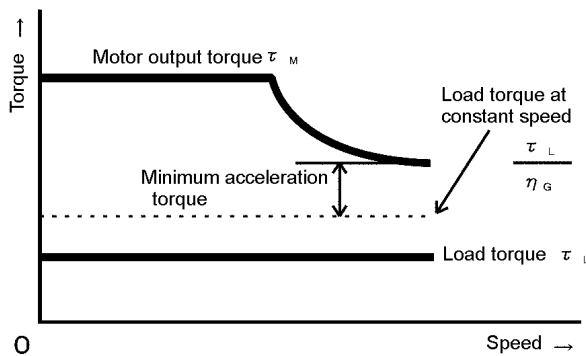

Figure 9-2 Example Study of Minimum Acceleration
2) Calculate minimum acceleration torque. (See Figure 9-2)